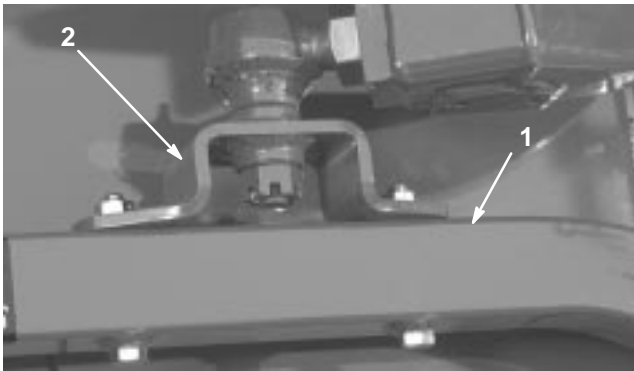

Figure 25
4. Remove the capscrews and locknuts securing the ball joint mounts to the castor arms on the cutting unit (Fig. 25).
4. Move the lift lever to the Float position. Push the lift arms down until the holes in the ball joint mounts line up with the holes in the castor arms (Fig. 25).